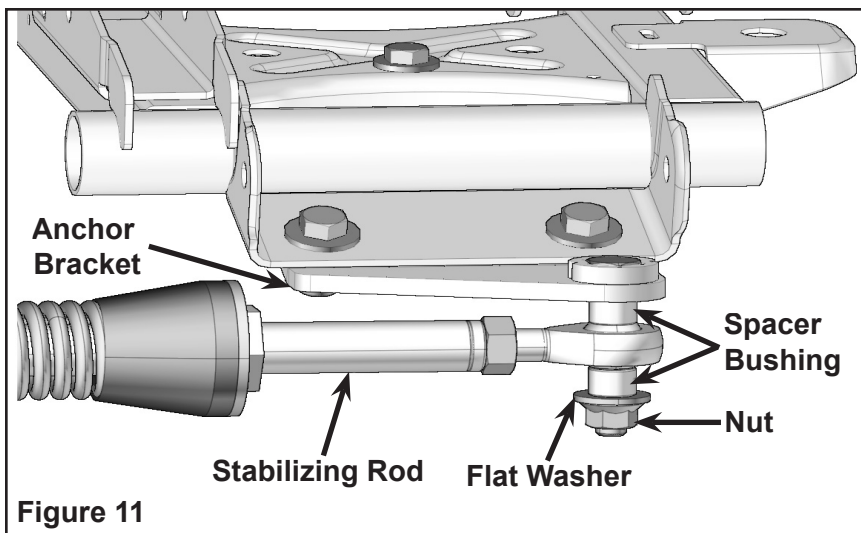

Figure 11
8. Attach the stabilizing rod to the anchor bracket, using the spacer bushings, the flat washer and nut. Torque to 52 ft. lbs. (70 Nm). Figure 11.